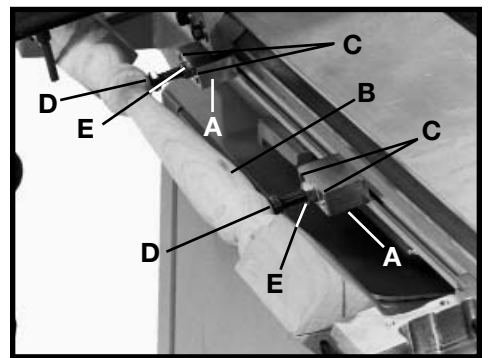

Fig. 77
Two turning support brackets (A) Fig. 77 are supplied and are designed to prevent any inward deflection of the turning (B) during the duplicating operation.
1. Loosen four set screws (C) Fig. 77 and move support brackets (A) to the areas where they will give the greatest support along the turning (B). Tighten set screws (C).
2. Loosen two locknuts (E) Fig. 77 and rotate support screws (D) until they contact turning (B). Turning (B) will then be protected against any inward deflection during the duplicating operation. Tighten two locknuts (E) after adjustments are made.